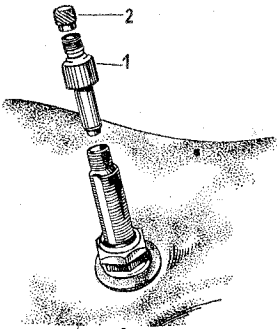

Fig. 38
- (1) Ease the tyre by means of a lifting jack and turn the valve upwards.
- (2) Deflate the air completely and unscrew the valve air part (Fig. 38/1).
- (4) After filling-up the tyre with the liquid screw on the valve air part (Fig. 38/1) and inflate the tyres to the prescribed pressure.
- (4) After draining the inner tube unscrew the water valve, screw back the valve air part and inflate to the prescribed pressure. Finally, screw on the protecting cap (Fig. 38/2) to the valve.